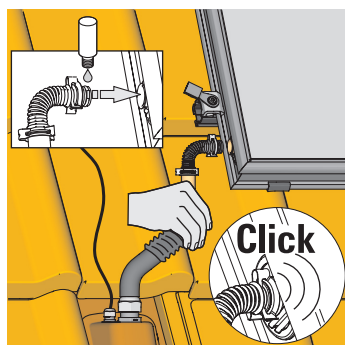

Fig. 3-38 Work step 16
16. Apply lubricant to the O-rings of the solar panel connection elbows . Insert solar panel connection elbows into the solar panel connection pipes until the retaining clamps click in place (Fig 3-38).